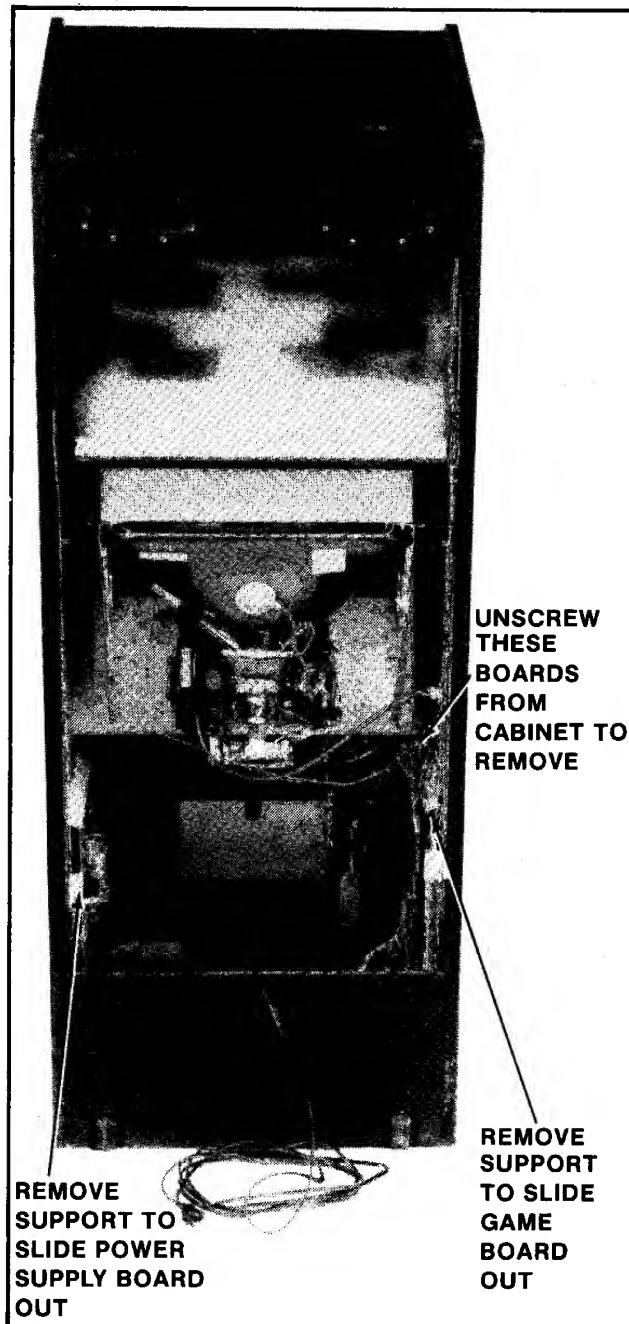

Figure 4-12 Removing P.C.B.s — Upright
1. UPRIGHT MODEL: See Figure 4-12.
- ☐ Disconnect the power supply board from all its cabling, remove the P.C.B. supports indicated in Figure 4-12, and slide it out the back of the cabinet.